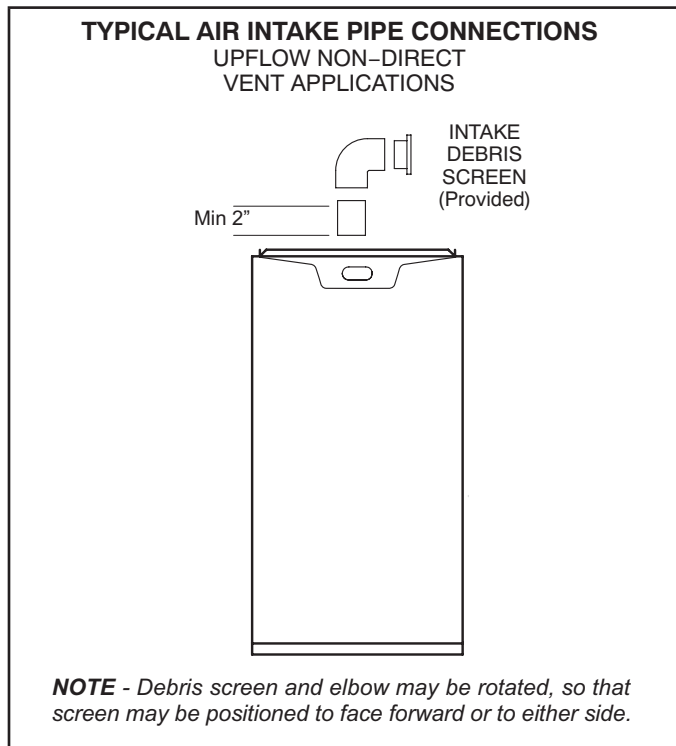
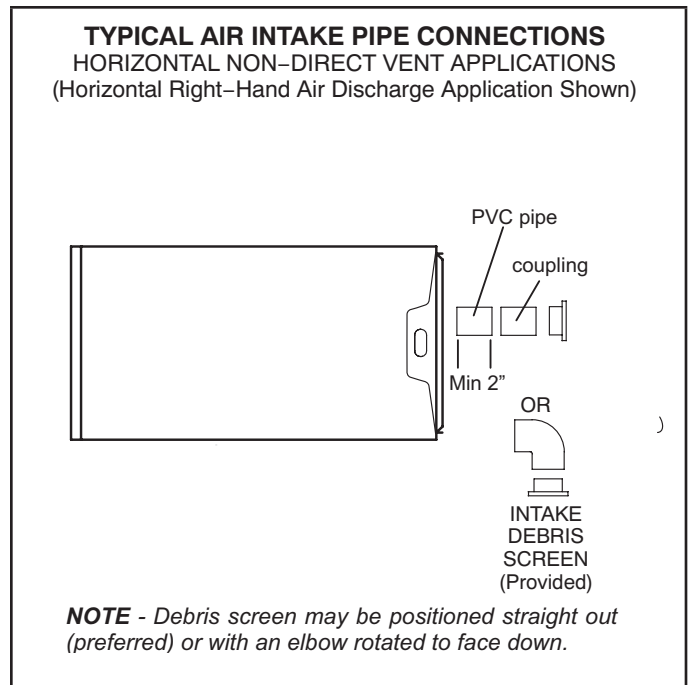

FIGURE 25
FIGURE 26
- 1 - Use field-provided materials and the factory-provided air intake screen to route the intake piping as shown in FIGURE 25 and FIGURE 26. Maintain a minimum clearance of 3" (76mm) around the air intake opening. The air intake opening (with the protective screen) should always be directed forward or to either side in the upflow position, and either straight out or downward in the horizontal position.